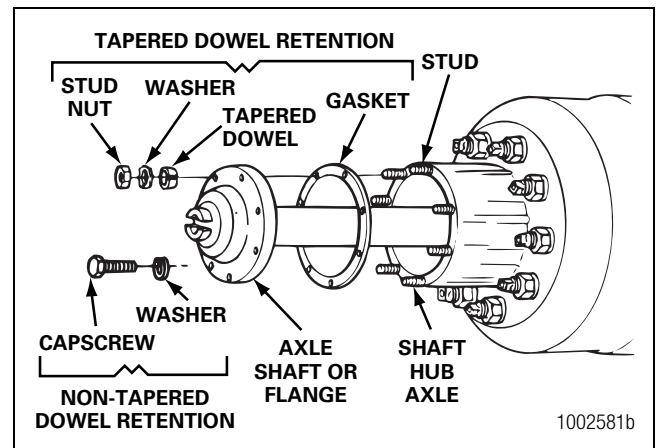

Figure 11.9
8. Remove the stud nuts or cap screws and the washers from the flange of the axle shaft. Figure 11.9.
9. Loosen the tapered dowels, if used, in the flange of the axle shaft. Refer to Section 3 for the recommended tools and removal procedures. Figure 11.9.
10. Remove the tapered dowels, the axle shafts and gaskets, if used. Figure 11.9.
6. Install the gasket, if used, and axle shaft into the axle housing and carrier in the same location. The gasket and flange of the axle shaft must be flat against the hub. Rotate the axle shaft or the driveline as necessary to align the splines and the holes in the flange with the studs in the hub. Figure 11.9.